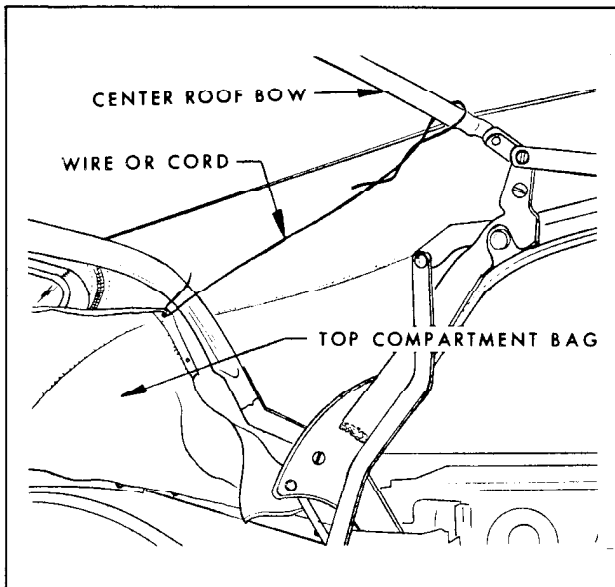

Fig. 17-22 Top Compartment Bag Held in Position
5. Detach folding top compartment bag from rear seat back panel, thus exposing rear quarter and rear trim stick attaching bolts. Forward end of top compartment bag may be tied or wired to center roof bow to provide ready access to attaching bolts. (Fig. 17-22)